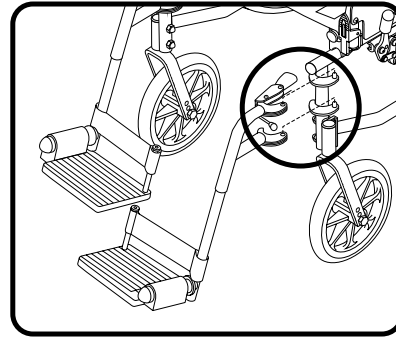

Figure 7. Foot Rigging Removal
5. Either remove the foot riggings or move them aside. See figure 7. You can also flip-up the foot plates. This will help to prevent your feet from being caught on the foot riggings during the transfer. If you use the foot riggings to support yourself during transfer, you risk tipping your wheelchair.